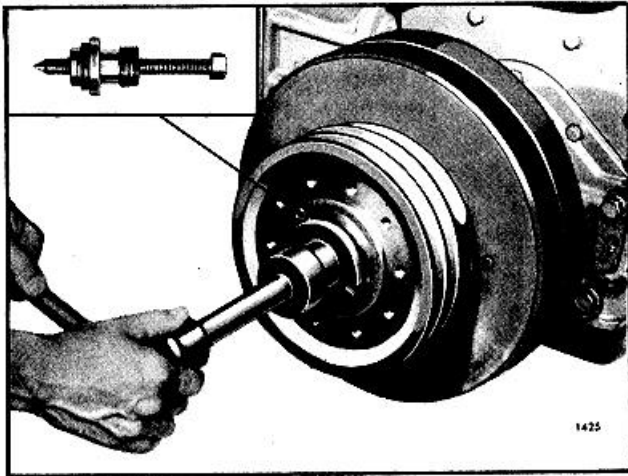

Fig. 1. Removing Rubber Mounted Pulley from Crankshaft using Tool J 5356
3. Use puller J 5356 as illustrated in Fig. 1. Clean the threads of the tool and pulley. Screw the 2 1/2"-16 thread into the pulley hub as far as possible with the center screw backed off. Then force the pulley off the crankshaft by turning the center screw in.